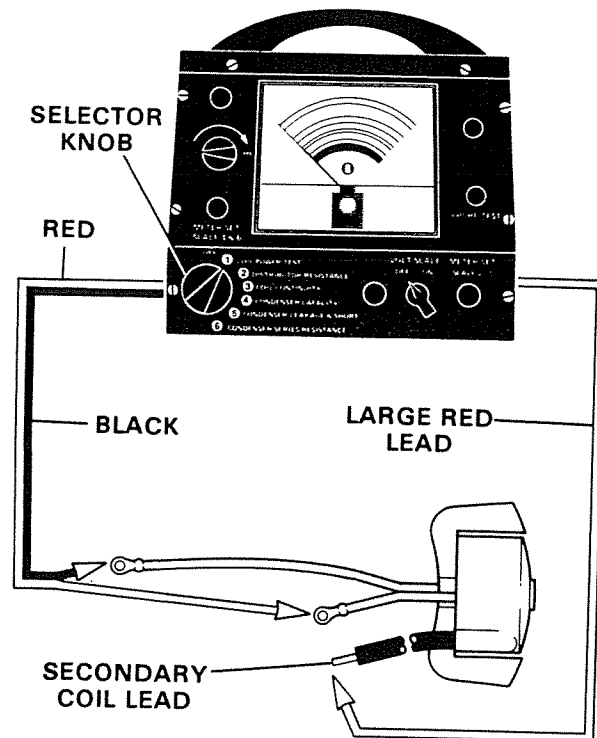

Figure 19. Testing Coil Power.
1. Connect analyzer to coil as follows: Figure 19.
Coil High-Speed Test. Leave analyzer and coil connected. Figure 19.